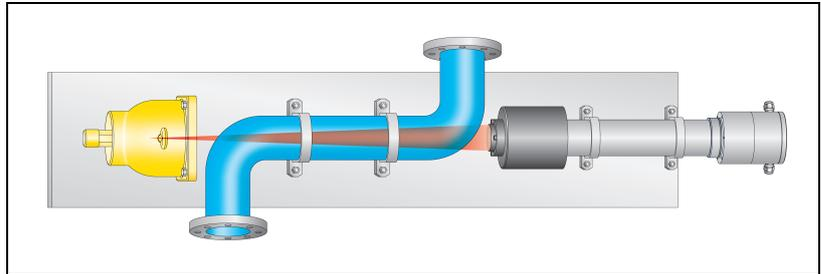

Fig. 2-4 Installation on S or U-shaped measuring path
- On S or U-shaped measuring paths the shielding container with source has to be installed on top and the detector at the bottom (see Fig. 2-4).